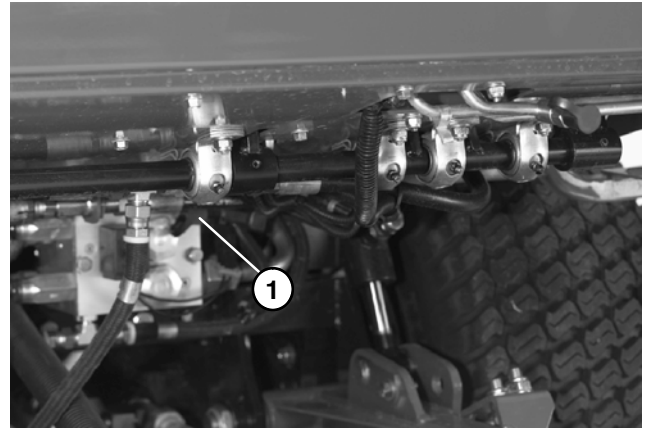

Figure 18
3. Install test gauge with hydraulic hose attached to manifold test port for the deck to be tested (Fig. 18, 19, and 20).